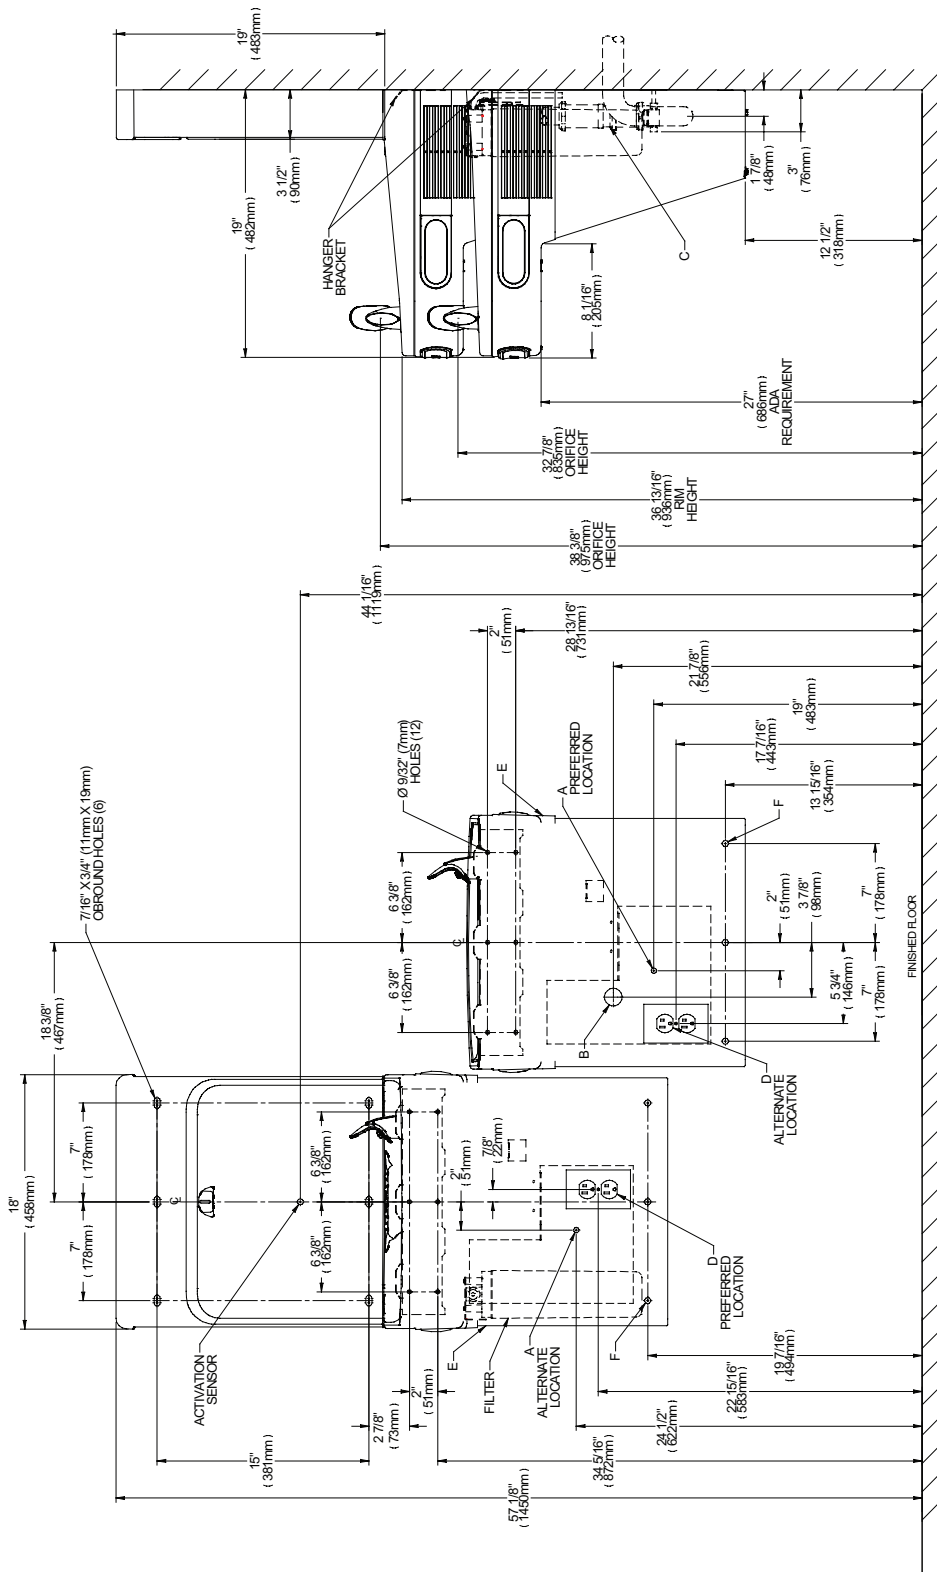

FIG. 4
5) Hang only the refrigerated cooler on the hanger bracket. Be certain hanger bracket is properly in the slots on the cooler backs as shown in Figures 1 (Pg. 2), 2 (Pg.3), 3 (Pg. 4), and (Fig. 4, Pg. 5).